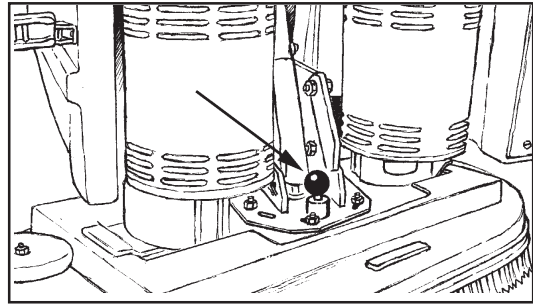

Figure 16
4. Raise plunger pin and rotate brush head. See figure 16.